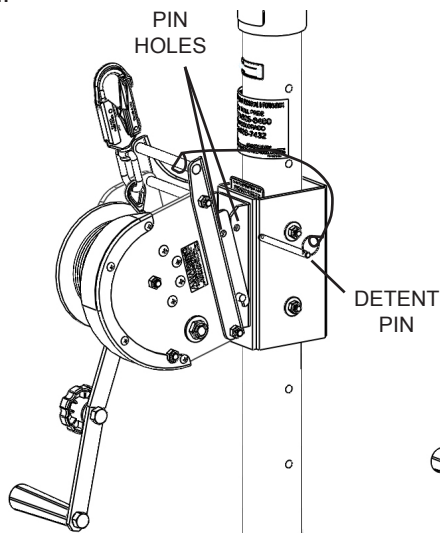

Figure 5d: PH Series Hoist Detent Pin
- iii) Align the holes on the quick release bracket and the mounting bracket. Secure the hoist using the attached detent pin. See Figure 5d.